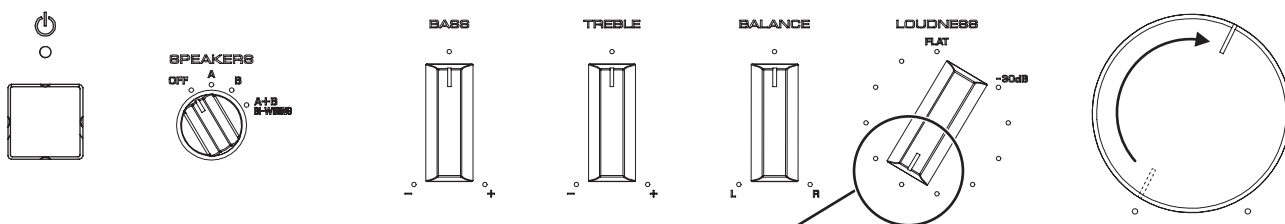

Fig. 9
- \* When the "BASS", "TREBLE" and "BALANCE" knobs are set to their top positions and the "LOUDNESS" knob is set to "FLAT", the most recent protection function (the same as that indicated by turning the "BASS" knob) is indicated by the "⏻" (power) indicator. However, the "VOLUME" knob will not move at this time. The "VOLUME" knob will move if a protection history is selected with one of the knobs. (Fig. 9)
※ "BASS"、"TREBLE"、"BALANCE" ツマミが中央の位置にあり、"LOUDNESS" ツマミが "FLAT" の位置にある場合も "BASS" ツマミを回した時と同じ最新のプロテクション種類がパワーインジケーターで表示されます。ただし、この場合 "VOLUME" ツマミは動作しません。各ツマミで履歴を選択した時に "VOLUME" ツマミは動作します。(Fig. 9)